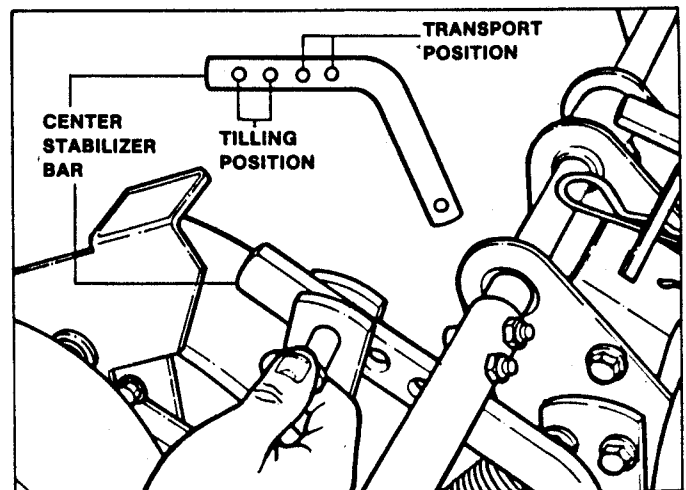

FIGURE 9
7. Reinstall center stabilizer bar with washers and hair pins and attach to tiller in desired position. See Figure 9.